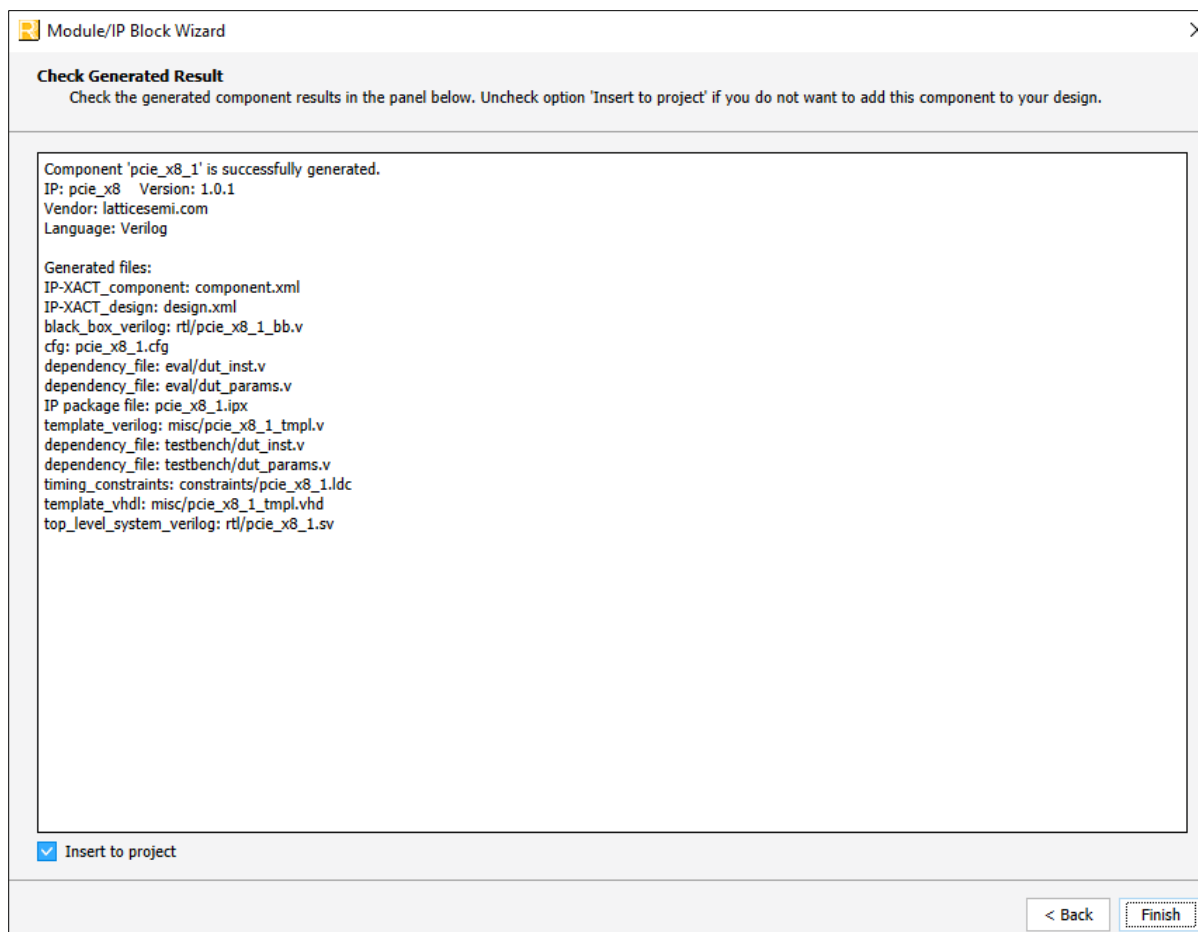

Figure 7.5. Check Generated Result
- Click **Generate**. The **Check Generating Result** dialog box opens, showing design block messages and results as shown in Figure 7.5.